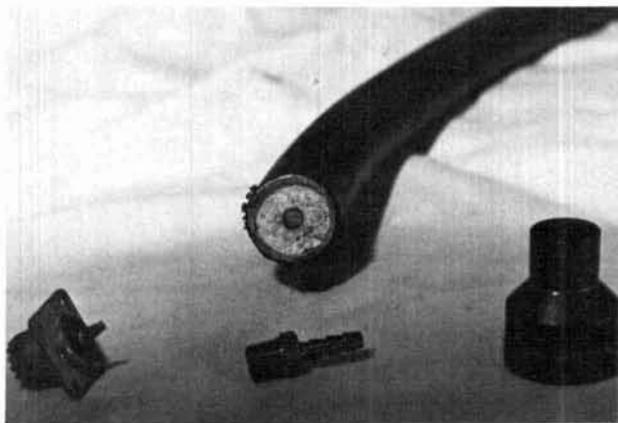

fig. 1. The 1-inch hardline, coax connector, and the plumbing fittings used to make a connector for the hardline.
First check out your local plumbing stores to see what is available. The fittings I used were (1) a 3/8-inch threaded to 3/16-inch tubing (nipple) adapter (this may be called a barb); (2) a 3/4-inch threaded female to 1/2-inch copper tubing adapter; (3) an SO-239 coaxial connector. These are shown in **fig. 1**, along with a section of the 1-inch line.